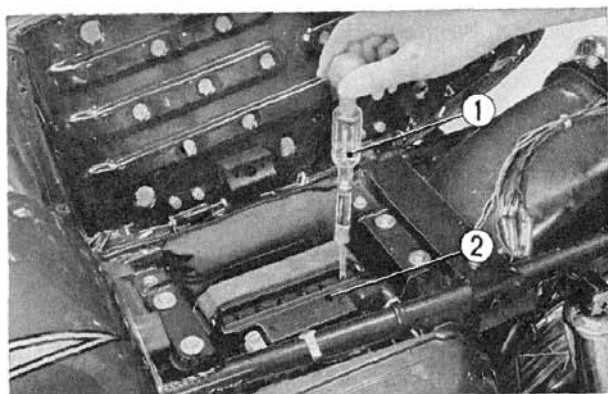

Fig. 19-15 ① Hydrometer
- (2) Remove the battery cell caps and check electrolyte specific gravity in each cell with a hydrometer. (Fig. 19-15)
- (3) Connect the voltmeter leads to the battery terminals, and measure the voltage. If the voltage is less than 12 V after correcting to 77°F (25°C) electrolyte temperature the battery should be thoroughly checked and the problem diagnosed.